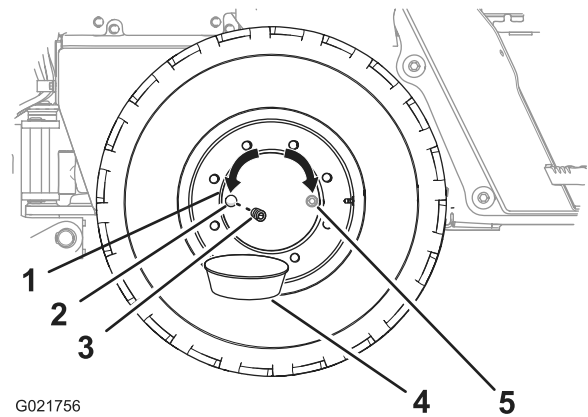

Figure 84
4. Place a drain pan under the drain port in the wheel hub (Figure 84).
5. Remove the plug from the wheel hub (Figure 84).
6. Check that the oil level is at the bottom of the threads of the oil port (Figure 84).
8. Install the plug in the oil port of the wheel hub (Figure 84).
2. Move the machine forward or backward until the plug for the wheel hub is at either the 3 o'clock or 9 o'clock position (Figure 84).